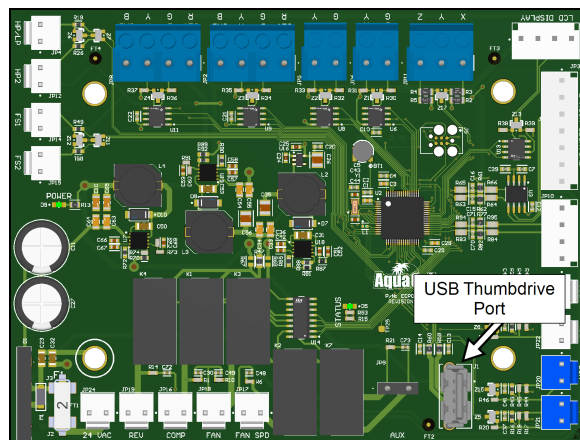

Figure 2 - USB Thumb Drive Port
4. Place USB thumb drive in the heat pump's USB thumb drive port on the control board. See Figure 2.